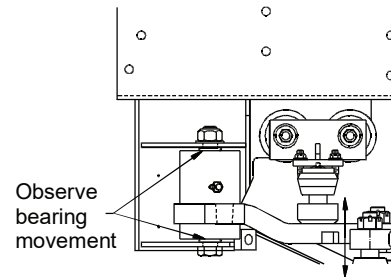

Figure 16 - Steering Arms
2. Start vehicle engine. Oscillate the steering wheel and observe the motion of the steering arms (See Figure 16). The steering arms should not exhibit any noticeable conical motion about their pivot axes.